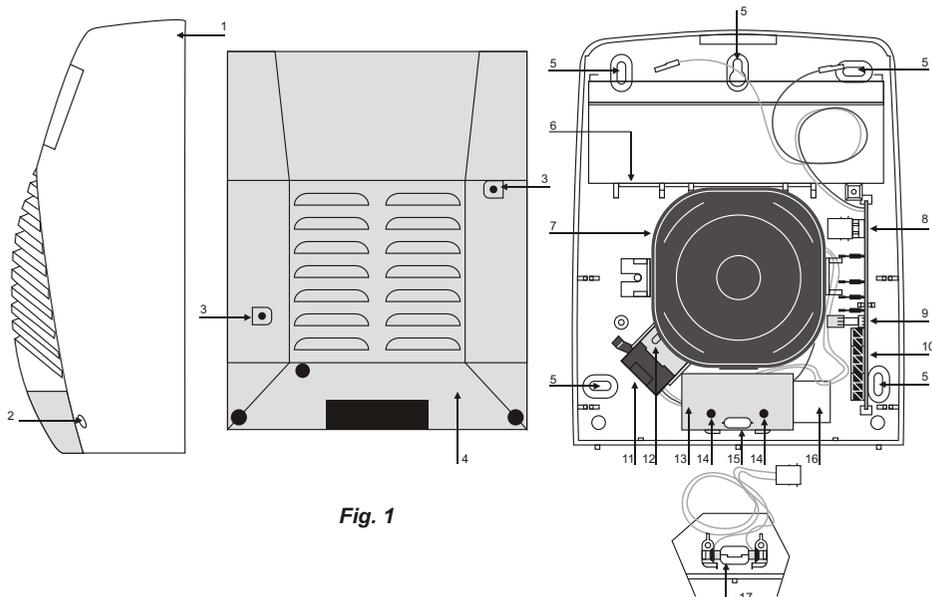

Fig. 1
- Pull the wires through the cable entry (16).
- WARNING:** Do not over tighten the snatch bracket screw (12) as this may damage the bracket wings (see figure 1).
- Complete the connections on the terminal board (10) as per the instruction in the relevant paragraph.
- Mount the battery on its support (6) and complete the battery connections (see figure 1).